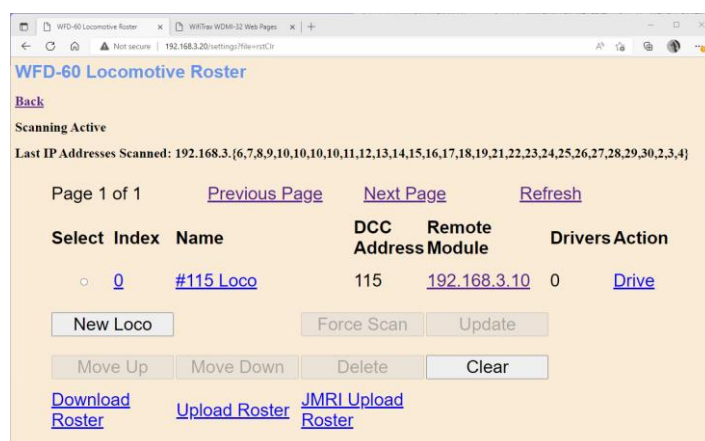

Figure 14 The Scanned Locomotive Roster of the WFD-60, Showing Your First Locomotive
- (13) Now tap Remote Locomotives. You see the WFD-60 Locomotive Roster as in Figure 14. This shows that the loco fitted with the WDMI-32 has been scanned and recorded in the roster.
You can also drive trains using a web browser such as Edge, Safari or Chrome by displaying in the browser the Locomotive Roster, Figure 14, and tapping the Drive hyperlink. This will open a new tab
You can also configure the locomotive module using its web pages, starting at its Main Menu accessible via the IP Address hyperlink for the loco in the Remote Module column in Figure 14.